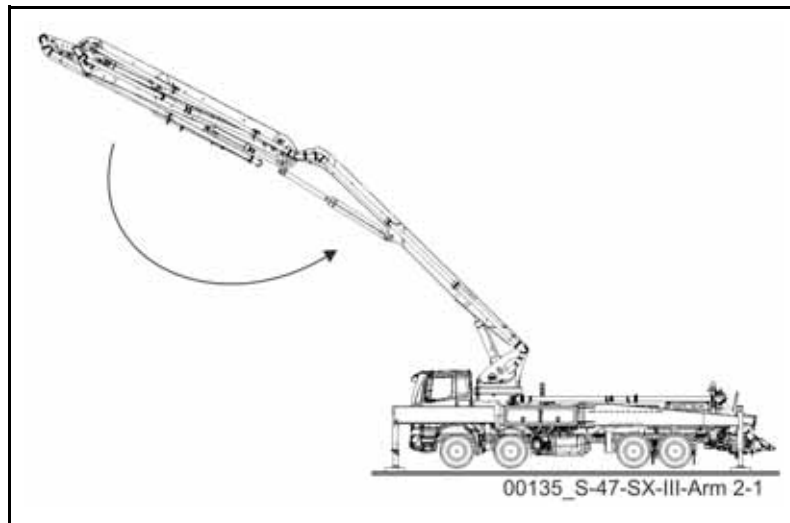

Fig. 275
- Fold in placing boom section 2 (Fig. 275)